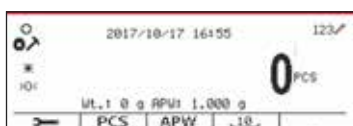

Figure 39
1. Press the **Library Mode** button until the icon corresponding to Counting is displayed on the screen. The default (or last) Average Piece Weight (APW) is displayed. (See Figure 39)